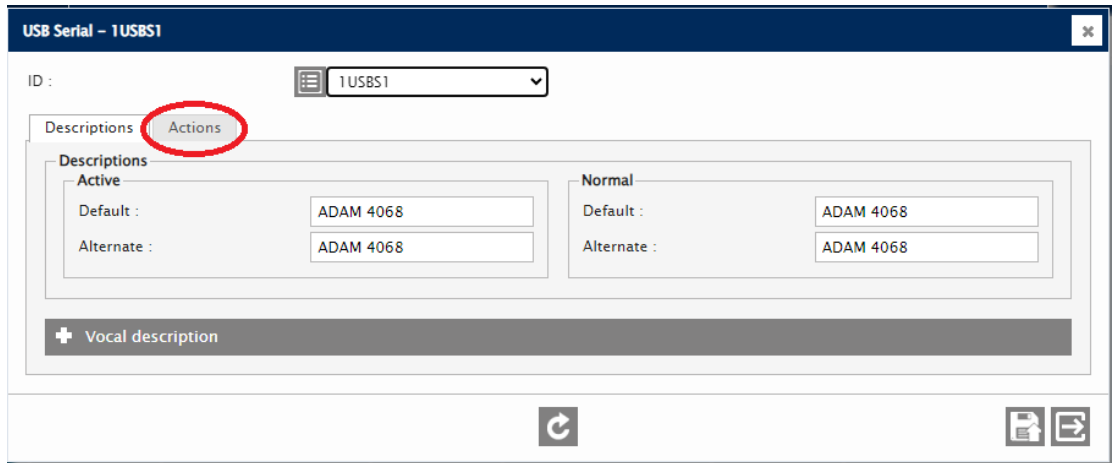

Figure 7: Devices – USB Serial configuration screen
- (g) Check the 1USBS1 device checkbox and select the edit (tools icon) button. The configuration screen in Figure 7 will appear.